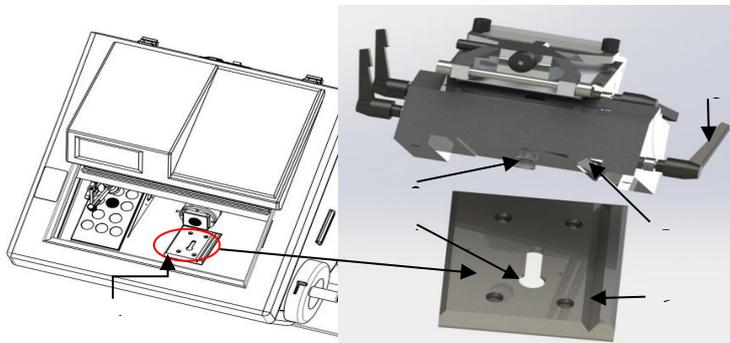

Fig. 17
As shown in Figure 17, the blade holder is installed on the track (1) inside the cryostat. During installation, with the blade holder's blade close to the sample clamp, follow these steps:
- ⊙ Gently rotate Fixed Lever 2 (2) to move the locking block (3) at the bottom of the blade holder away from the bottom of the blade holder until it reaches the farthest position.
- ⊙ Align the locking block (3) at the bottom of the blade holder with the circular hole (4) on the track (1). Simultaneously, align the V-shaped groove (5) at the bottom of the blade holder with the V-shaped groove (6) on the track (1), then place the blade holder onto the track (1) and gently push it forward to the appropriate distance.
- ⊙ Gently rotate Fixed Lever 2 (2) to lock the blade holder onto the track and adjust the adjustable handle on Fixed Lever 2 (2) to the horizontal position.